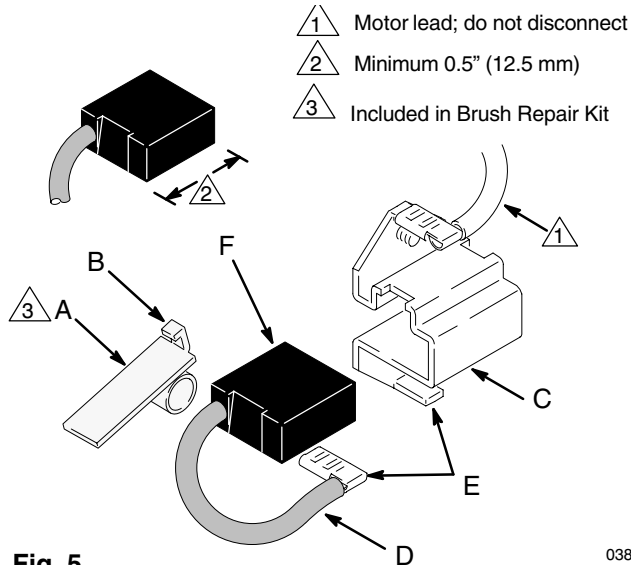

Fig. 5
4. Fig. 5. Push in spring clip (A) to release hook (B) from brush holder (C). Pull out spring clip (A).
5. Fig. 5. Pull brush lead (D) out of terminal (E). Remove brush (F).
2. Fig. 5. Slide brush lead (D) into terminal (E).